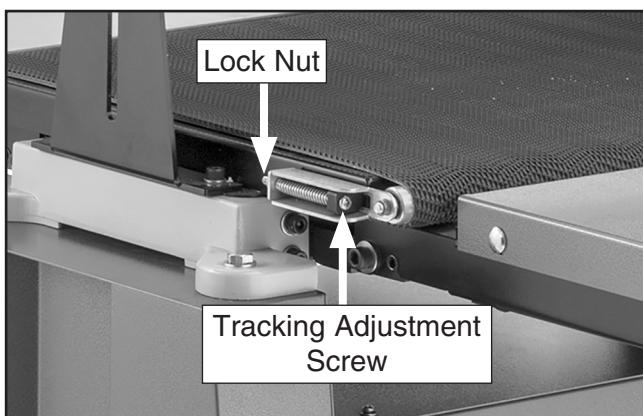

Figure 53. Conveyor belt tracking adjustment screw and lock nut.
- If belt slips during operation, rotate screws clockwise in small amounts while holding lock nuts still (see **Figure 53**) until belt no longer slips on the rollers.